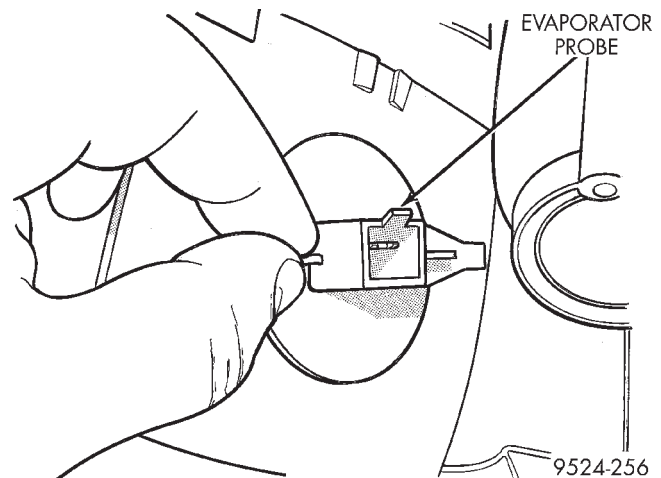

Fig. 84 Evaporator Probe
(14) Using a flat blade pry tool, Pull up on tab at evaporator probe cover (Fig. 84). Turn evaporator probe cover clockwise 90°.